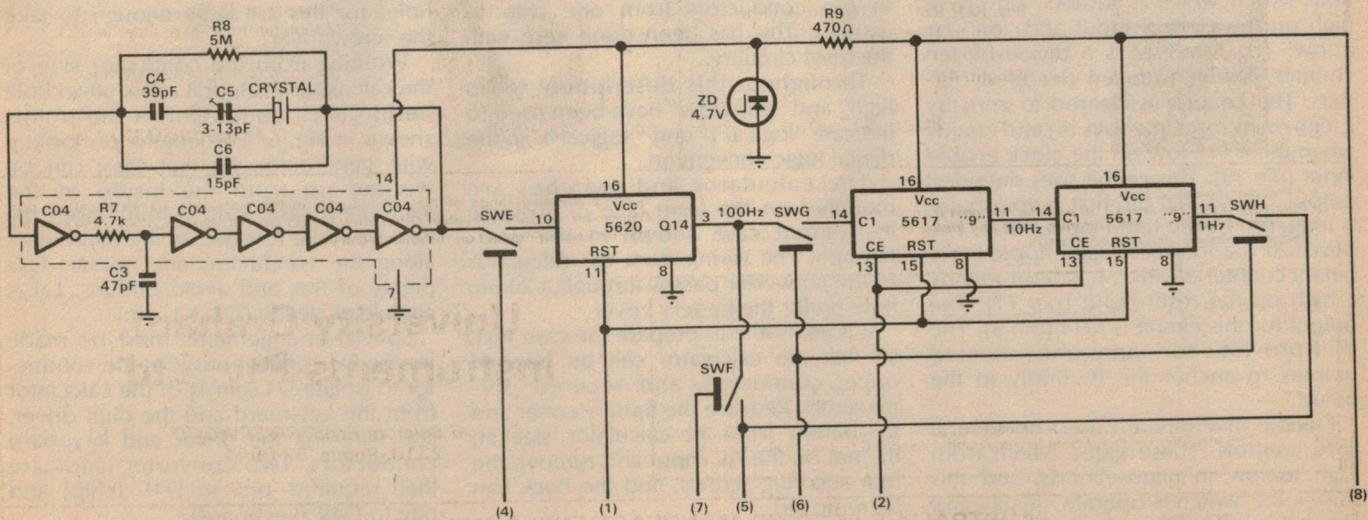

Fig. 5: The clock circuit consists of a 1.6384MHz crystal oscillator, three divider ICs, and a switching IC.
A problem arises with crystals with a frequency below 4MHz, because the inverter chain may allow the crystal to oscillate at its third harmonic. Propagation delay can be introduced by increasing the number of inverters in the chain, and introducing R7 and C3, as in Fig. 5. Since the frequency of the inverter chain is directly proportional to supply voltage, the problem is to ensure that the chain can keep up with the crystal over the range of voltages provided by a battery as it discharges, and also that at maximum voltage it is not fast enough to allow the crystal to oscillate at its third harmonic. The values shown in the circuit result from a good deal of trial and error. Even then, a zener diode regulator is needed to hold the supply voltage of the crystal/inverter network below 6 volts.
6. Increase the value of C4 (Fig. 5).
7. Decrease the value of C4 (Fig. 5).